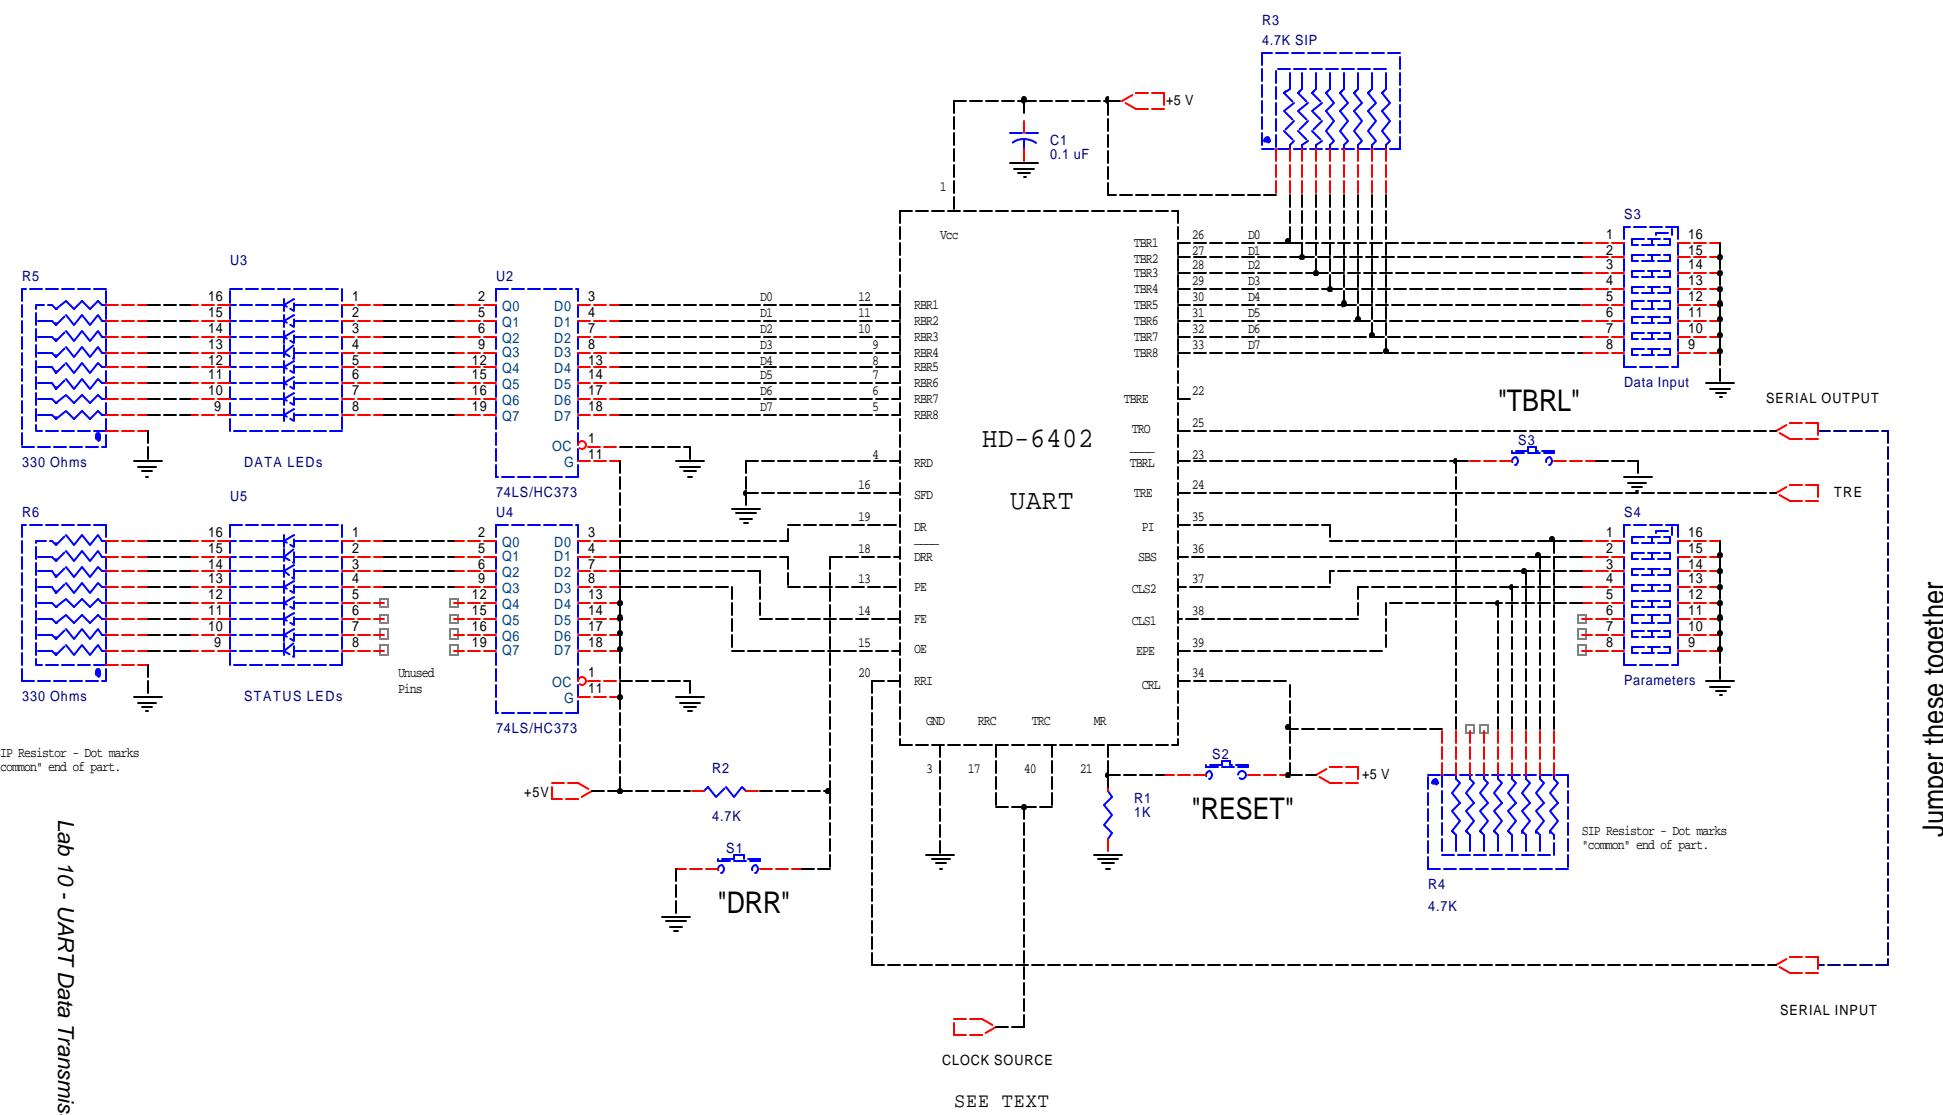

Figure 1: UART Data Transmitter with Digital Loopback
Figure 1 shows the circuit used in this lab. As you can see, the UART chip does most of the work! Everything else is either an input, an output, or a clock signal.
1. Build the circuit of Figure 1.